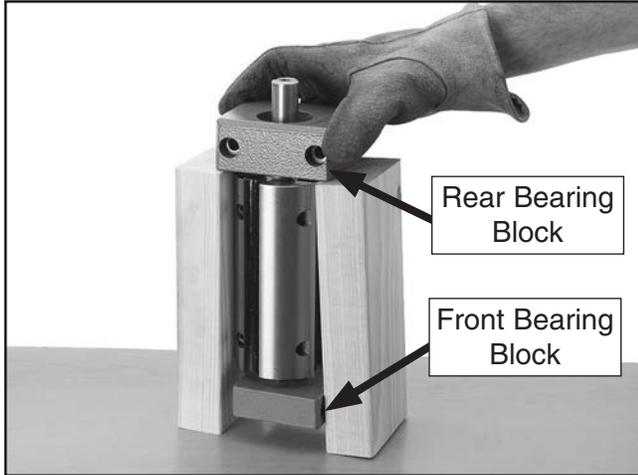

Figure 5. Removing rear bearing block.
9. Place cutterhead assembly on workbench or flat surface with pulley side of cutterhead shaft facing up, then place 2x4 blocks under rear bearing block, as shown in **Figure 5**.